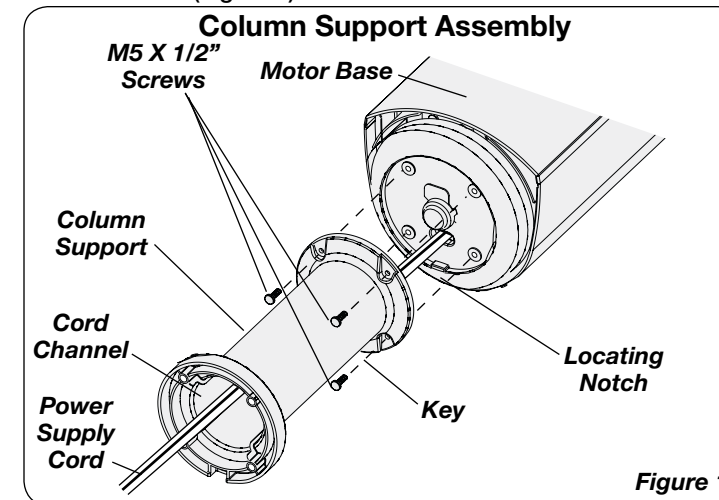

Figure 1
2. Locate the Power Supply Cord at the bottom on the Fan. Place the Power Supply Cord through the Cord Channel of the Column Support. (Figure 1)
3. Attach the Column Support Assembly to the Motor Base with (4) 1/2" Long M5 Screws. Make certain to align the Key on the Support Column Assembly with the Locating Notch on the Motor Base. (Figure 1)